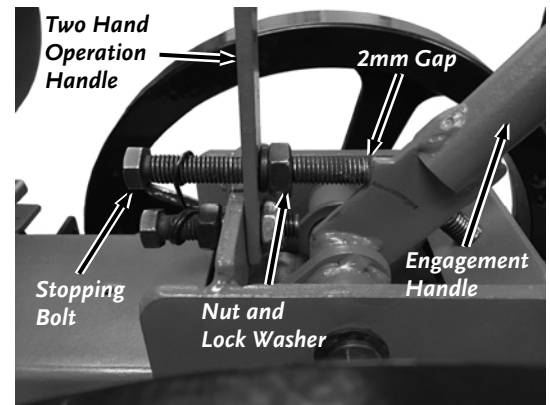
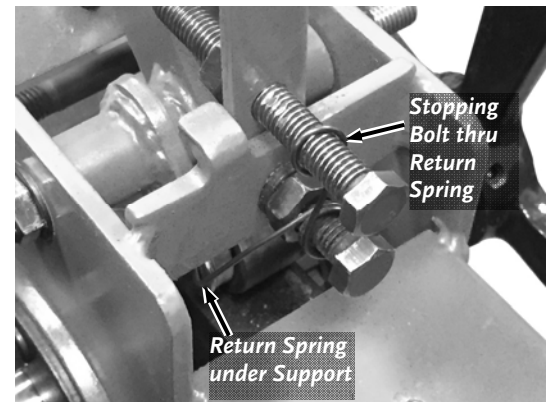

Figure 17
Figure 19
2. Use a 17mm Wrench to remove the Nut and Lock Washer and a 14mm Wrench to remove the Stopping Bolt (**Figure 17**).
8. Reinstall the Stopping Bolt, Nut and Lock Washer. Ensure that the Stopping Bolt goes through the Return Spring and that the Return Spring is anchored under the Frame Support (**Figure 19**). Leave a 2mm gap between the Stopping Bolt and the Engagement Handle (**Figure 17**).